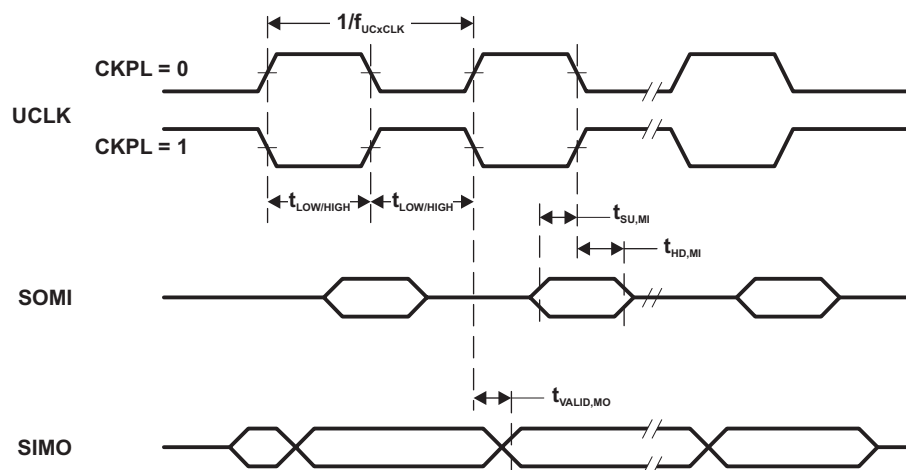
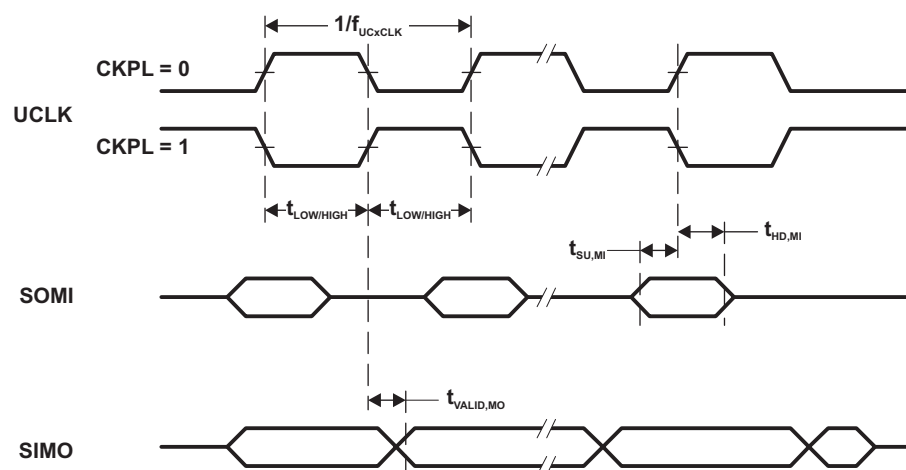

Figure 5-12. SPI Master Mode, CKPH = 0
Figure 5-13. SPI Master Mode, CKPH = 1
- (1) f_{UCxCLK} = 1/2t_{LO/Hi} with t_{LO/Hi} = max(t_{VALID,MO}(eUSCI) + t_{SU,SI}(Slave), t_{SU,MI}(eUSCI) + t_{VALID,SO}(Slave)). For the slave parameters t_{SU,SI}(Slave) and t_{VALID,SO}(Slave), see the SPI parameters of the attached slave.
- (2) Specifies the time to drive the next valid data to the SIMO output after the output changing UCLK clock edge. Refer to the timing diagrams in Figure 5-12 and Figure 5-13.
- (3) Specifies how long data on the SIMO output is valid after the output changing UCLK clock edge. Negative values indicate that the data on the SIMO output can become invalid before the output changing clock edge observed on UCLK. Refer to the timing diagrams in Figure 5-12 and Figure 5-13.